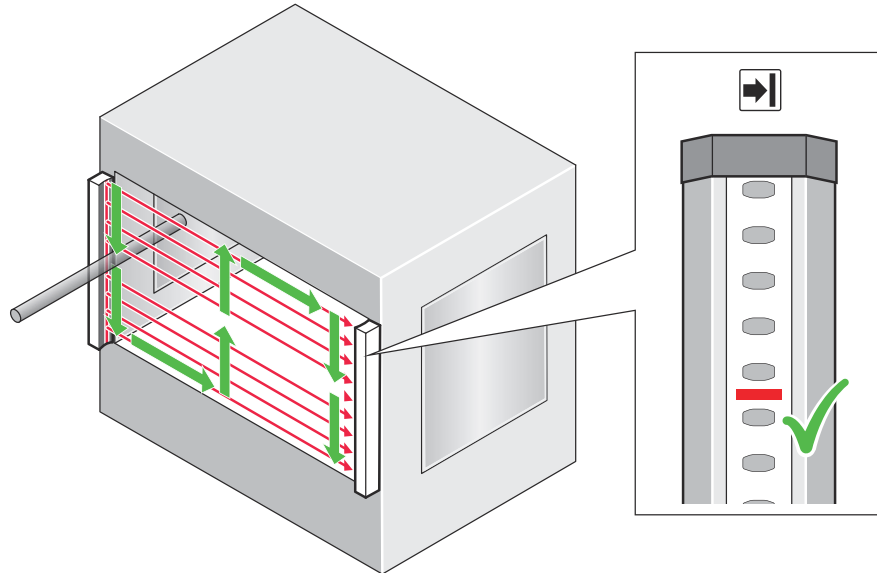

Figure 23: Test rod check: Step 1
1. Move the test rod slowly through the area to be protected (e.g., machine opening), as indicated by the arrow, see figure 23.